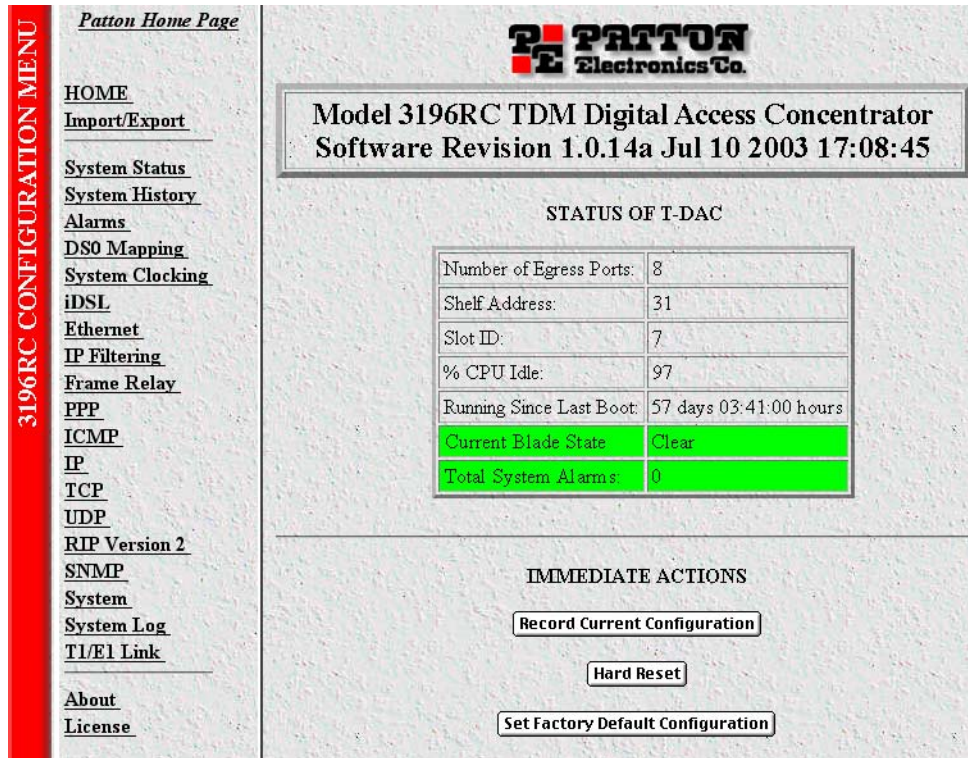

Figure 21. 3196RC Configuration Menu home page
- The 3196RC Configuration Menu home page will appear (see figure 21).